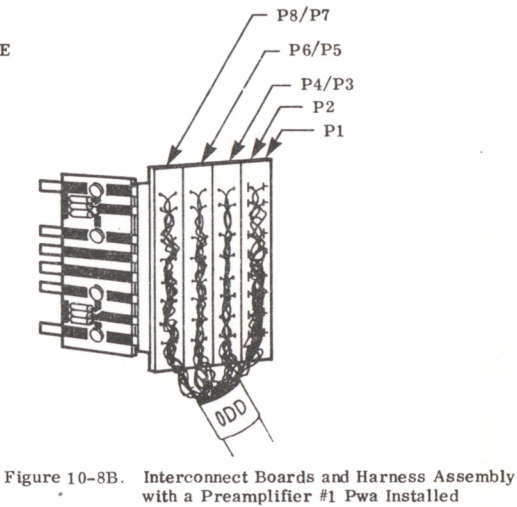

Figure 10-8B. Interconnect Boards and Harness Assembly with a Preamplifier #1 Pwa Installed
- b. Carefully pull the preamplifier harness assembly for the preamplifiers to be removed out of the preamplifier No. 1 housing. (The preamplifier No. 1's associated with the connectors should come with them. If they do not, use extreme care in removing them from the housing.) See Figures 10-8B and 10-8D.
- remove the preamplifier No. 1's and check to see if any of the pins are bent. If so, straighten them and re-insert the preamplifiers into the housing.) See Figure 10-8B.